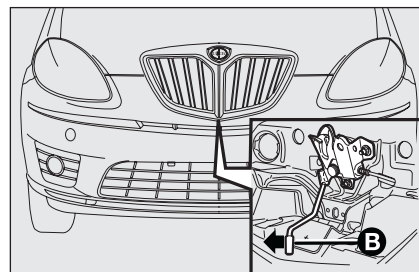

fig. 108
- move lever **B**-fig. 108 in the direction of the arrow;